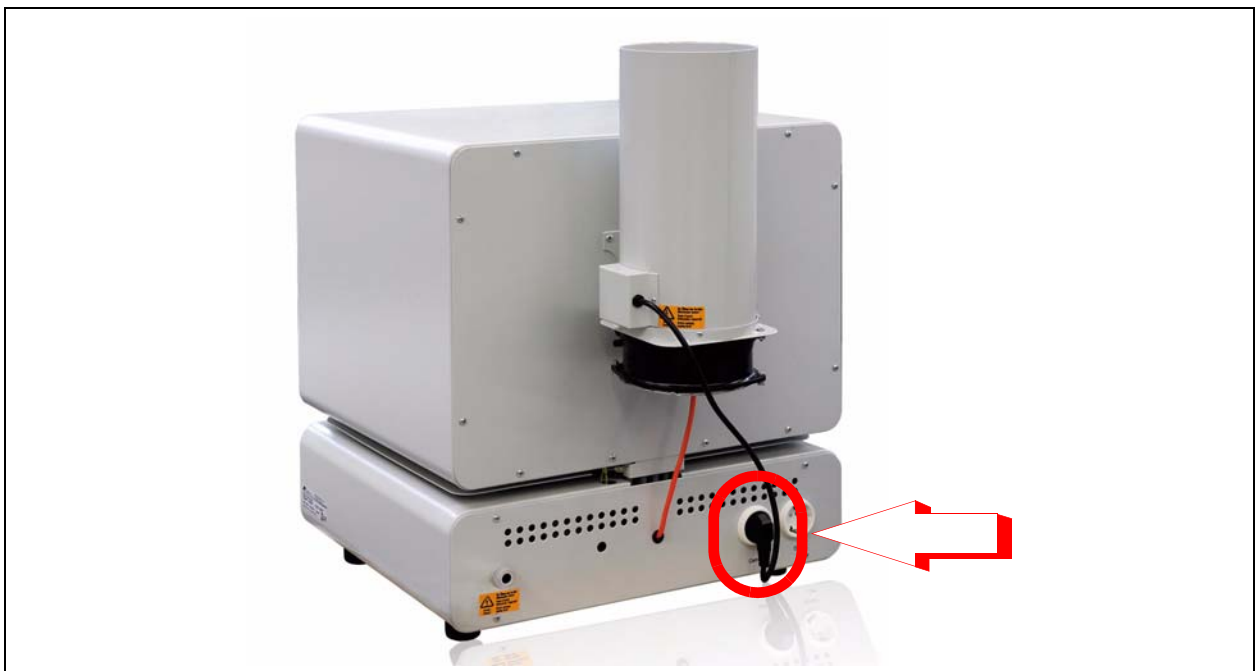

Fig. 3: KN2 catalyser power supply on the laboratory kiln
4. Connect the KN2 catalyser's power plug to the power socket on the  laboratory kiln (see Fig.3: KN2 catalyser power supply on the laboratory kiln on Page 9).